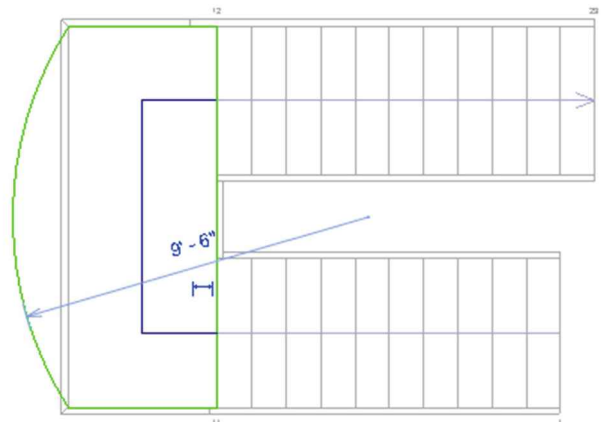

FIGURE 7-8.5 Curved line added at landing
10. Draw an arc similar to that shown in Figure 7-8.5.